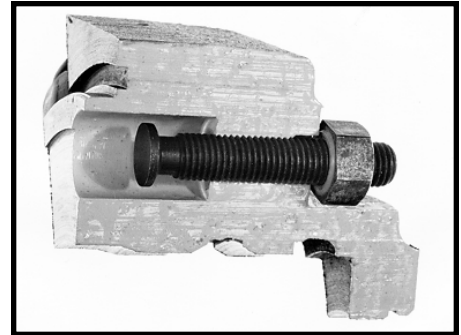

Figure 36
CAUTION: If the HFB64 steering gear assembly has a 5/16-24 UNF-2A poppet adjusting screw (2A) in the valve housing (9), the screw cannot be removed from the assembled valve housing because the screw end inside of gear is enlarged. SEE FIGURE 36. This screw, found only in the valve housing, can only be removed, if required, by following the valve housing disassembly procedures.